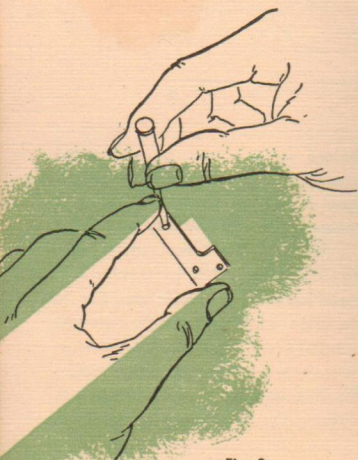

Fig. 3
**If the slide is too loose . . .** Loosen the screw in *one* end-plate, and retighten it while the rule is squeezed *gently* between the thumb and forefinger . . . as shown in Fig. 3, at left. Then do the same thing at the other end of the slide rule. Do not loosen the screws in *both* end-plates at the same time.